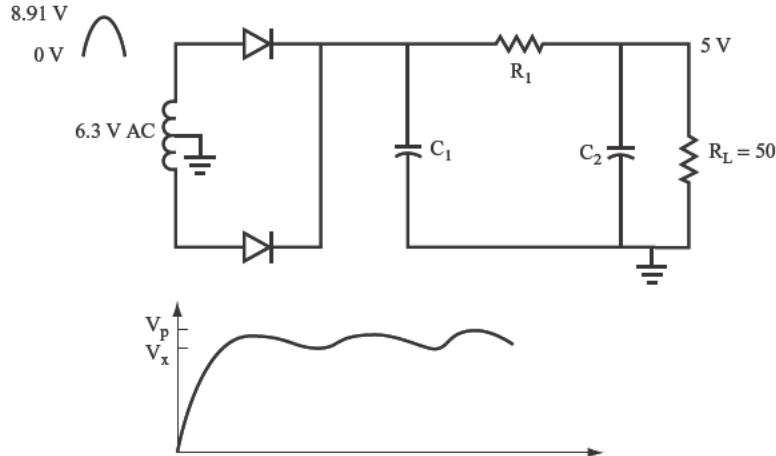

FIGURE 11.49
- 31** Figure 11.49 shows a full-wave rectifier circuit with an output voltage of 5 volts across a 50Ω load resistor. Use the following steps to calculate the values of the other components.